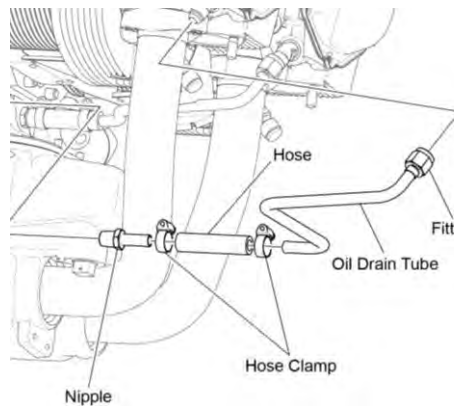

Figure 38
- (1) Connect a new hose to the nipple (Figure 38) in the crankcase.
- (2) Install and tighten a hose clamp on the hose closest to the crankcase.
- (3) Connect the oil drain tube to the elbow at the cylinder with a flange nut. Torque the nut per the latest revision of the ***Service Table of Limits - SSP-1776***.
- (4) Connect the new hose to the drain tube assembly.
- (5) Install and tighten a hose clamp on the hose and oil drain tube connection.
- (6) Torque both hose clamps per the Special Torque Requirements Tables in Part 1, Section V in the latest revision of the ***Service Table of Limits - SSP-1776***.